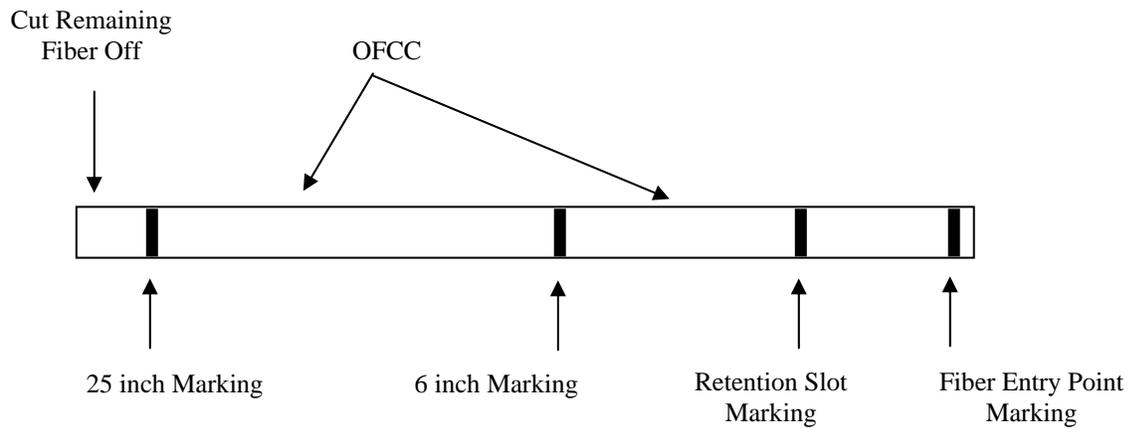
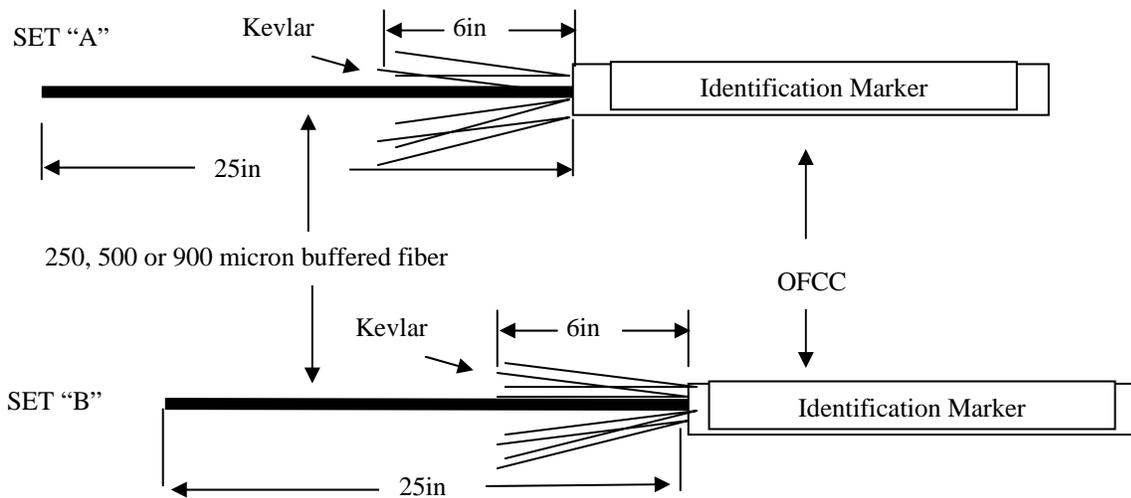

Figure 4 – OFCC Final Marking
Figure 5 – Diagram of 25in Strip Length with Kevlar
Step 3 – There are two sets of fibers to be spliced, set “A” (Input) and set “B” (Output). Set “A” fibers are fusion spliced to set “B” fibers. From the retention slot mark (from Step 1) on the OFCC measure out 6 inches on set “A” and mark that point. From the retention slot mark (from Step 1) on the OFCC measure out 25 inches and mark that point. Cut off any remaining fiber past the 25 inch mark (See Figure 4 below). Remove the OFCC jacket and Kevlar past the 6 inch mark. Then remove the remaining OFCC jacket past the retention slot mark leaving six inches of Kevlar in place. Repeat this process for all remaining fibers in both sets “A” and “B” (See Figure 5 below).